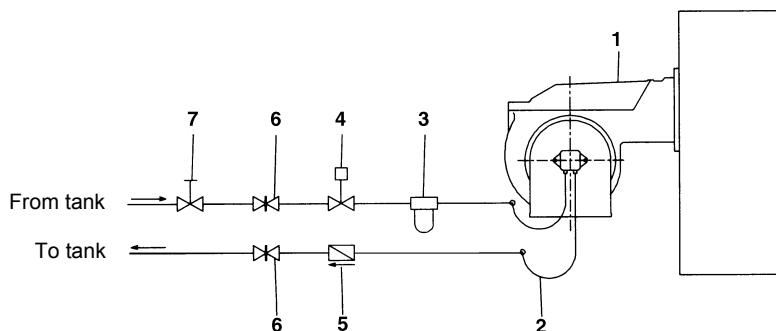

Fig. 5 - Double-pipe system
**NOTE:** in plants where gravity or ring feed systems are provided, install an automatic interception device (see n. 4 - Fig. 5).